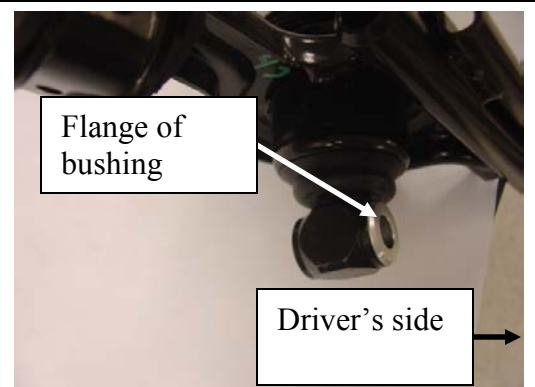

Figure 4
9. Insert the silver bushing into the bottom of the shift lever from the driver side of the shift lever opening; the flange on the bushing must be on the driver side of the shift lever (**Figure 4** shows the bushing inside the opening at the bottom of the shift lever; the flange of the bushing goes on the driver side of the shift lever).